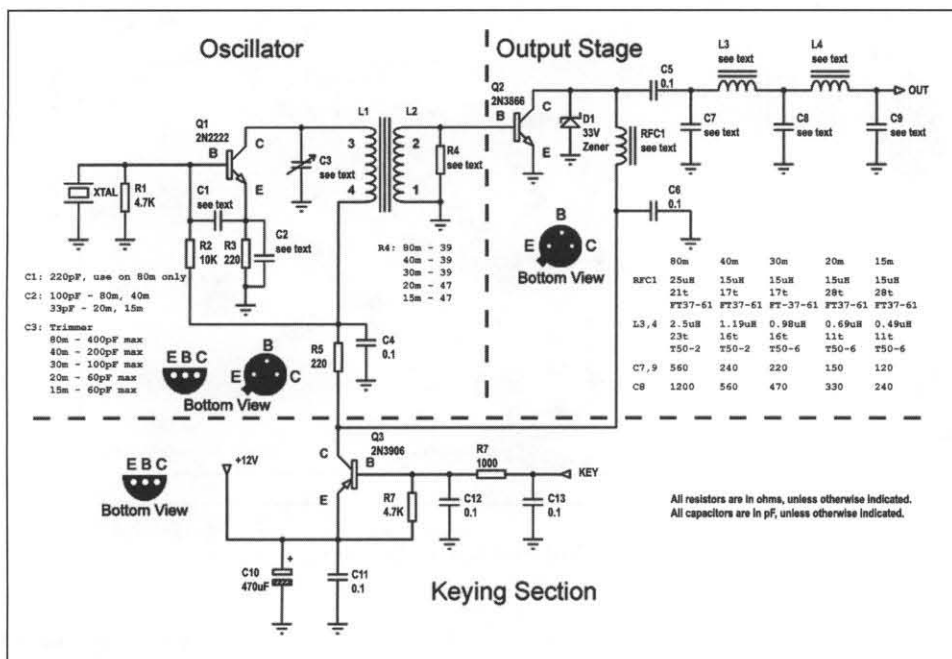

Figure 10—The complete Building Day Transmitter schematic.
- ___ Have someone else check your work—see Figure 10 for the completed transmitter schematic